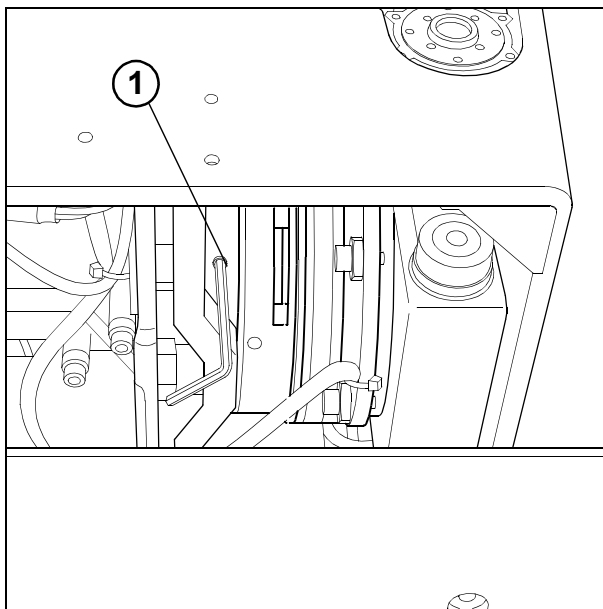

Fig. 16
- Check the 3 mounting screws (1/Fig.16) to make sure they are tight on the rotation axis.